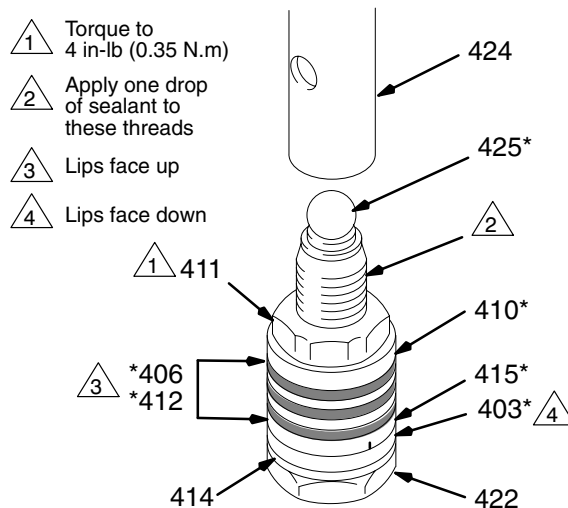

Fig. 30 0029
- Clamp the flats of the piston rod (424) in a vise. Loosen the retaining nut (411). Unscrew the piston valve (422). See Fig. 30.
- Disassemble the piston valve (422). See Fig. 30.
- Check the outside of the piston rod (424) and the inside of the sleeve (418) for scoring or scratches. If the parts are damaged, new packings will not seal properly. Replace these parts if needed.
- Alternate leather and plastic packings as shown in Fig. 30. The lips of the throat “V” packings must face down. The lips of the piston “V” packings must face up. The lips of the U-cup seal (403) face down. Incorrect installation damages the packings and causes the pump to leak.
- Stack the backup washer (414), seal (403*), female gland (415*), alternate the packings (412*,406*), and then male gland (410*) onto the piston valve (422). See Fig. 30.
- Tighten the packing retaining nut (411) onto the piston valve (22) to the torque specified in Fig. 30.
- Put the ball (425*) on the piston valve (422). See Fig. 30.
- Apply one drop of adhesive, supplied, to the threads of the piston valve. Then hand tighten the valve assembly into the piston rod just until the nut (411) contacts the rod. See Fig. 30.